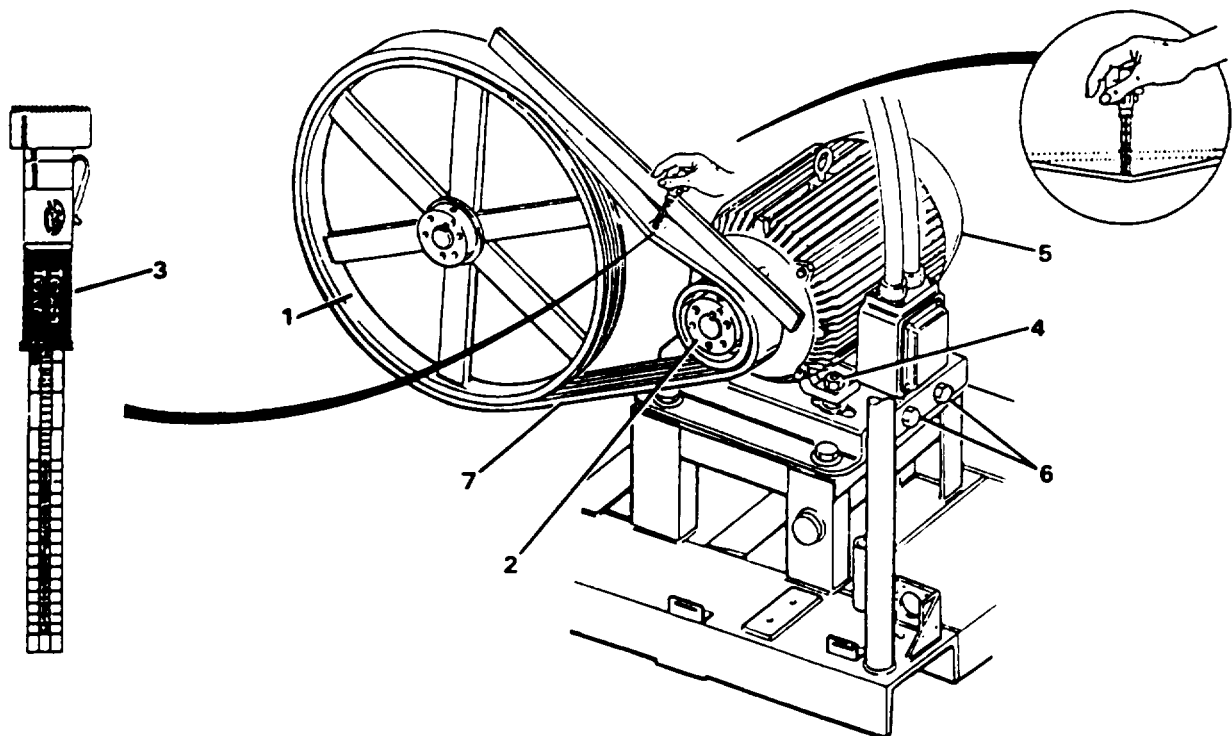
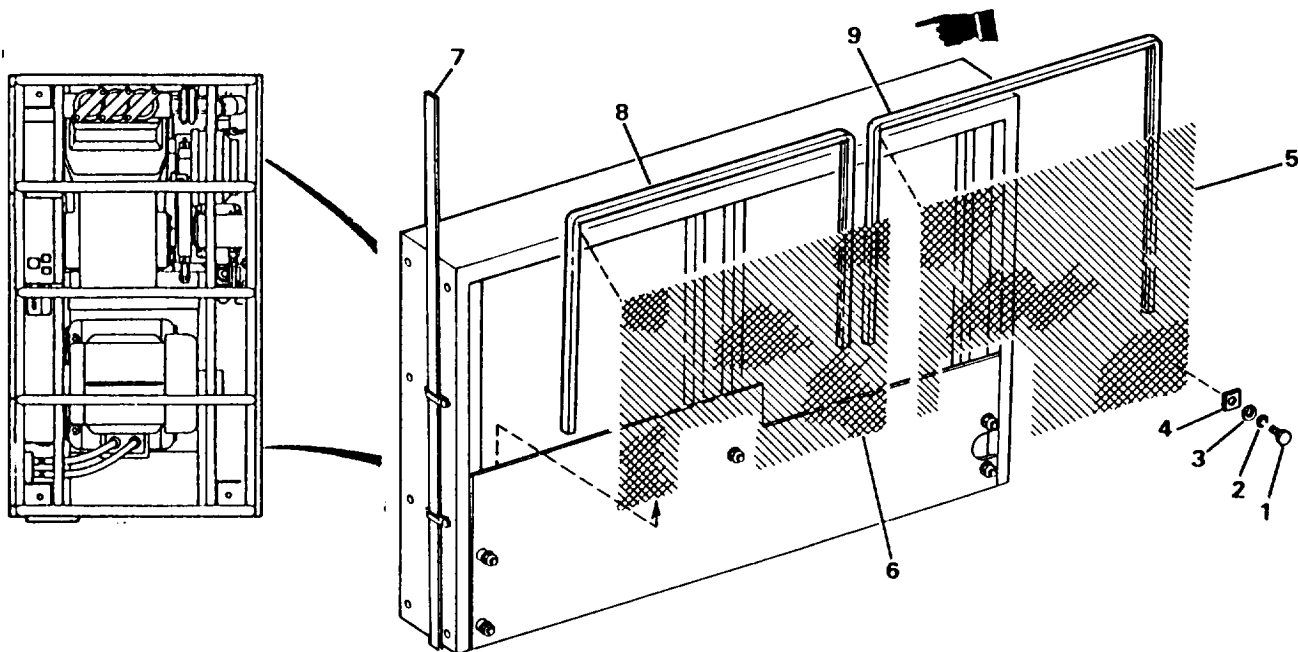

Figure 4-96. High Pressure Pump Belt Adjustment
Figure 4-97. High Pressure Pump Belt Guard
- (5) Clean and reinstall drain plug (1).
- (6) Fill the crankcase with the correct type of lubricating oil (refer to Lubrication Chart, LO 10-4610-232-12). This crankcase holds 3 gallons (11.4 liters) of lubricating oil.
- (7) Reinstall fill plug (2).
- a. Remove straightedge (7, Figure 4-97) from left side of belt guard and place it between sheaves (1 and 2, Figure 4-96) as shown.
- b. Reset upper sliding rubber marker on belt tension gage (3) to handle. Set lower marker on deflection scale at 5/16 (0.79 cm).
- c. Place gage (3) at middle of belt and press until belt is deflected 5/16. Use the straightedge to determine proper deflection when rubber marker comes even with bottom.
- e. If drive belt tension is not between 8 and 13 pounds, loosen four nuts (4) to allow the motor (5) to be moved.
- f. Turn jackscrews (6) clockwise to tighten the drive belt (7). Turn counterclockwise to loosen the drive belt.
- g. Check the alignment of sheaves (1 and 2) by placing the straightedge across the faces of the sheaves. If the sheaves are not aligned, move motor (5) to bring the sheaves into proper alignment.
- h. Recheck belt tension as described above. Then tighten four nuts (4).
Remove the twelve capscrews (1, Figure 4-97), lockwashers (2), washers (3), square washers (4) and remove screens (5) and (6). Do not remove straight edge (7) unless necessary. Remove neoprene trim (8 and 9) if necessary.